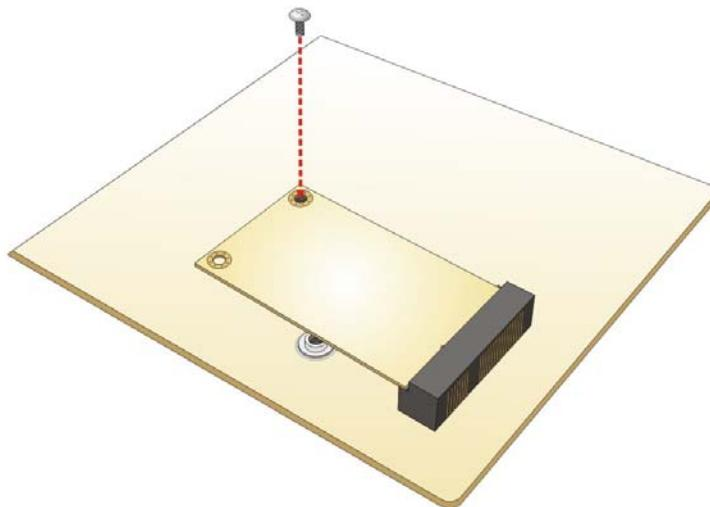

Figure 3-11: Securing the Full-size PCIe Mini Card
Step 6: Secure the full-size PCIe Mini card. Secure the full-size PCIe Mini card with the retention screw previously removed (**Figure 3-11**).